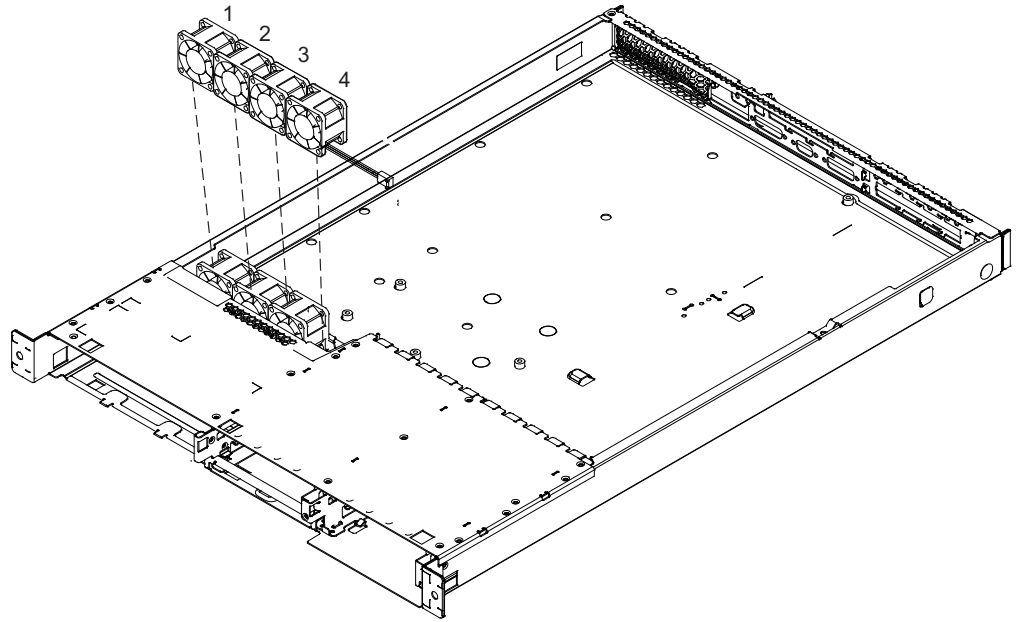

Figure 166. Replacing a microprocessor fan
1. Push the fan downward into the retaining clip. See Figure 166 on page 423.
Note: The fans are numbered from one to four, from left to right. See Figure 166.